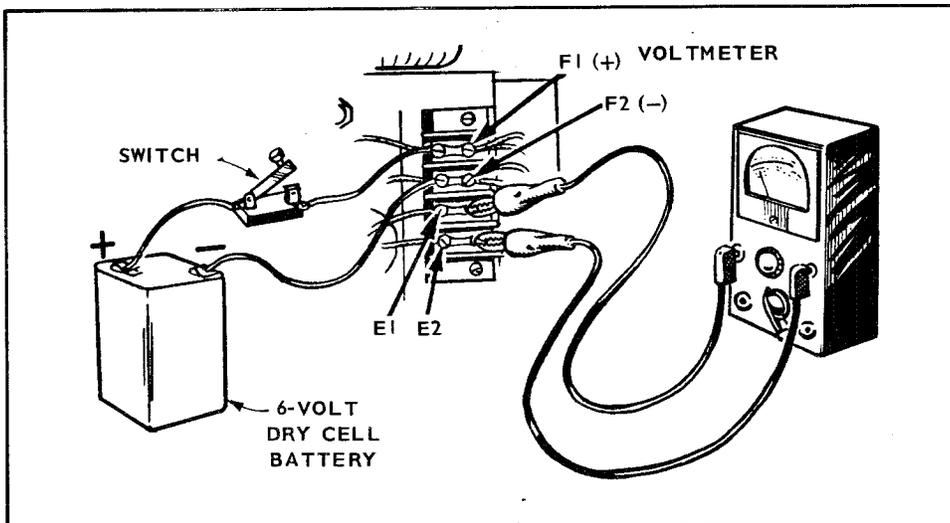

FIGURE 4-5. FLASHING THE FIELD
*Restoring Residual Magnetism: Flashing the field (Figure 4-5)*
### AUTOMATIC FIELD FLASHING (Figure 4-5)